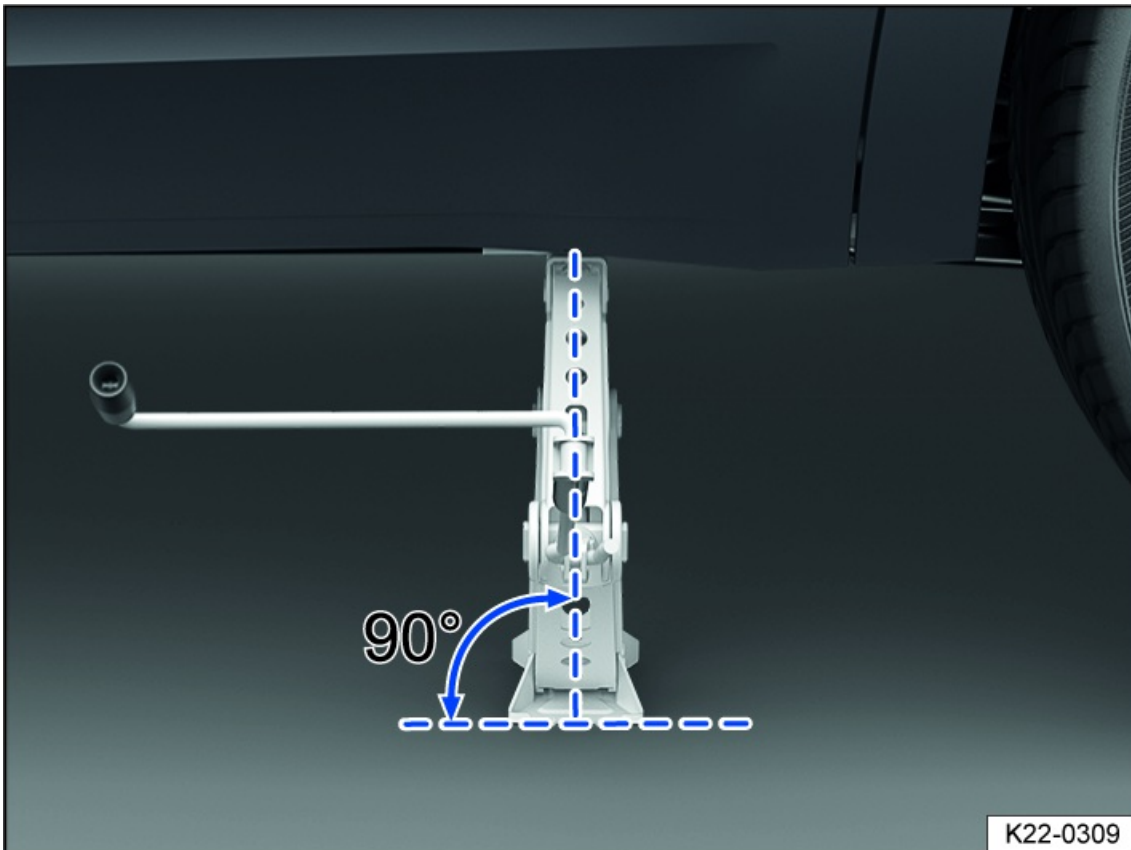
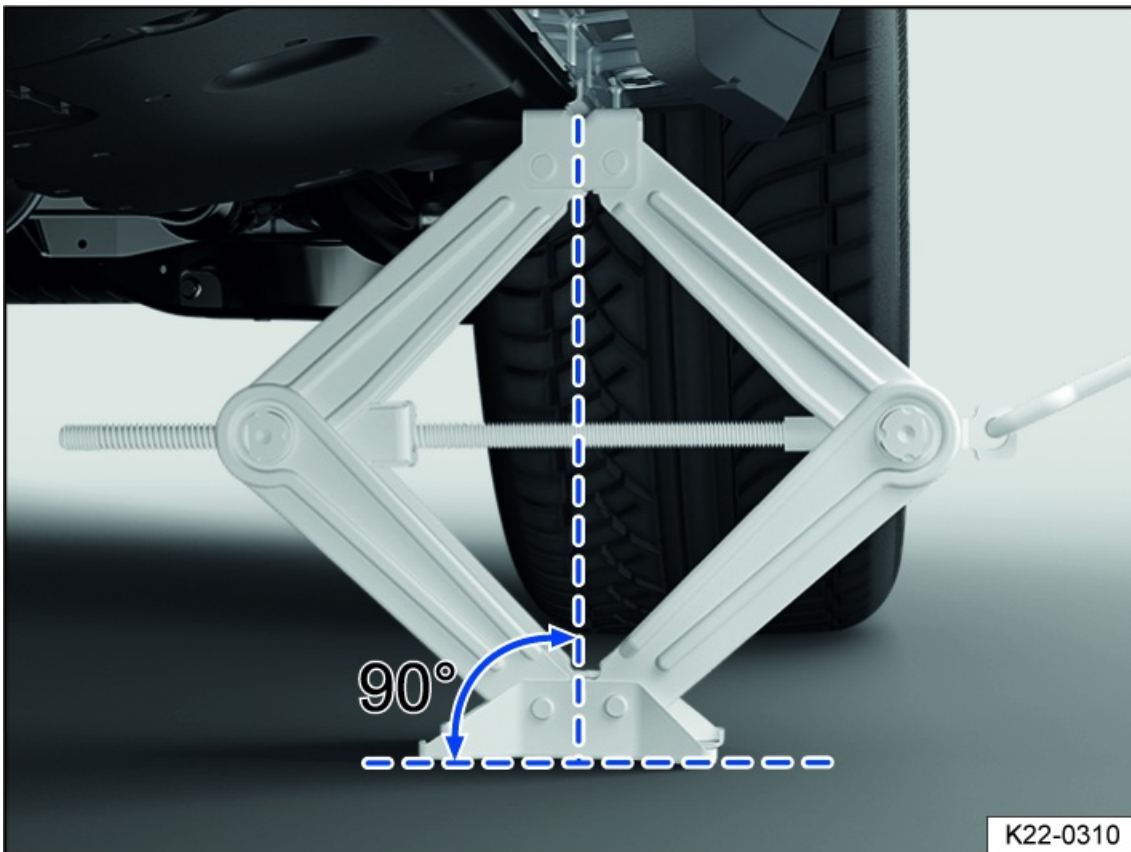

Fig. 189 Correct jack setup.
Fig. 190 On the left side of the vehicle at the rear: jack in position.
4. Make sure the entire base of the jack is seated securely on the ground and that the base of the jack is located exactly directly below the lift point *fig. 189* and *fig. 190*.
5. Straighten the jack and continue cranking the claw on the top of the jack upward until the claw is positioned on the jacking point under the vehicle *fig. 190*.
- Only place the vehicle jack at the lift points described. The bracket on the vehicle jack must firmly grip the sill fig. 190.